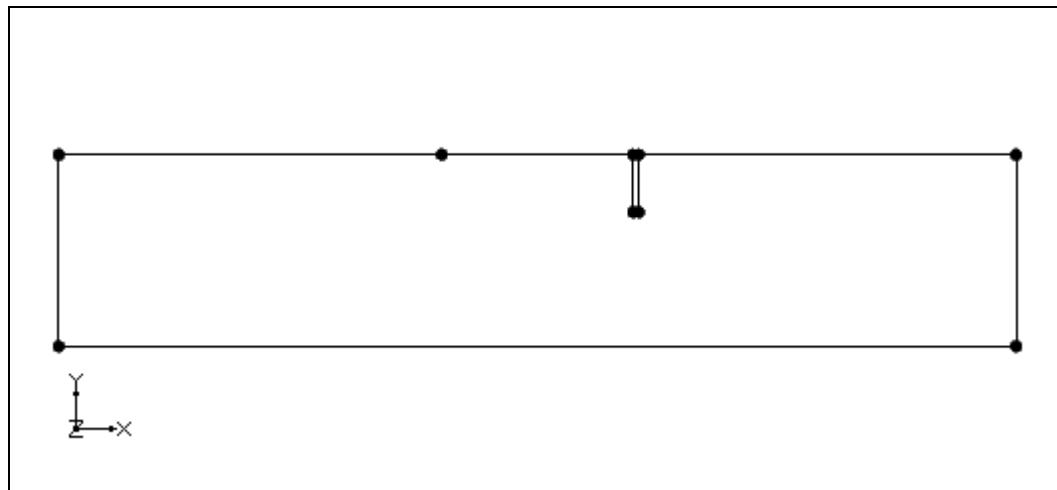

Figure 8 Arcs connecting points
11. The model should now look like Figure 8.